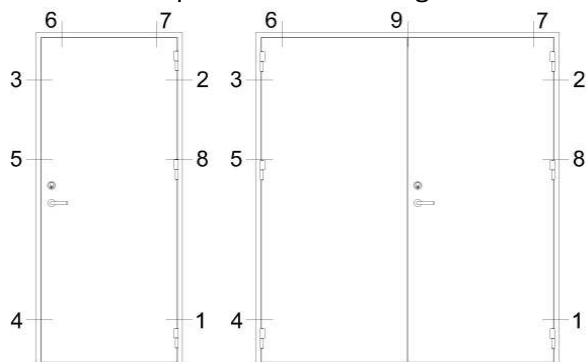

Figure 1 – Layout of fasteners SMU101/201
- 10) Fix the fasteners 1, 2 and 3 (see Figures 1, 2, 3 and 4) so that the threshold (if there is one) and the hinge-side door post is level. See Figure 11.
- 12) Fix the fastener 4 (See Figures 1; 2; 3 and 4).